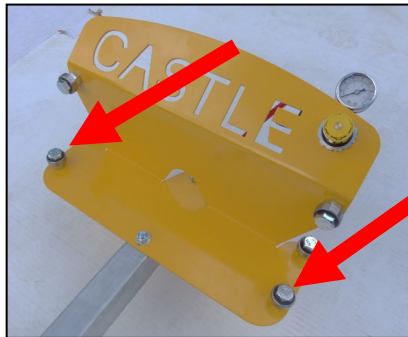

Fig 12
2. Remove the bottom bearing assemblies on the upper bracket. (Fig 12 & 13)